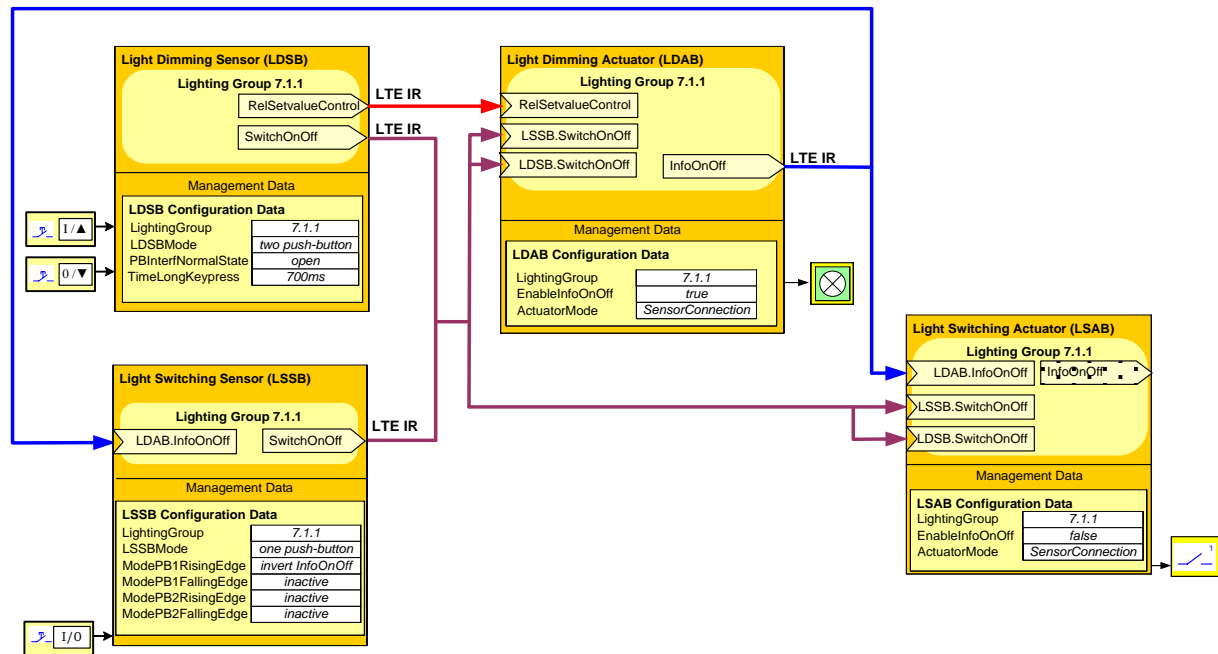

Figure 2 – Example of parallel light switching and dimming actuators in the same LightingGroup
Figure 2 illustrates runtime interworking mechanisms in case of combined light switching and dimming functionality in the same LightingGroup.
- This input is mandatory to synchronize the On/Off state of the Light Switching Actuator with parallel dimming actuators; see Figure 2.